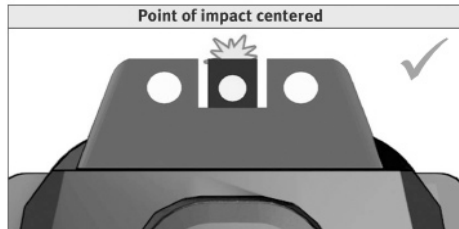
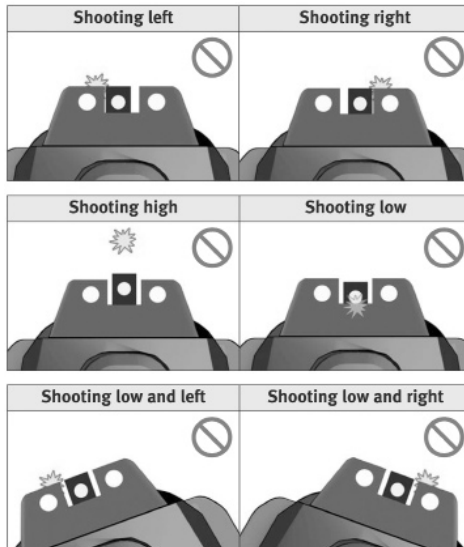

Figure 8 — Correct sight alignment
Figure 9 — Common sight alignment errors
The VP9 is equipped with a three dot sighting system, similar to those first introduced by HK on the P7 series pistol in the 1970s. The sights are adjustable for both windage (by drifting) and elevation (by replacement of the front sight). Sights are installed and aligned by HK technicians at the factory. Only an HK certified armorer should adjust or replace the VP9 sights. Figure 8 shows correct sight alignment, Figure 9 shows common sight errors.
1. Acquire the proper sight alignment and sight picture (see Figure 8).